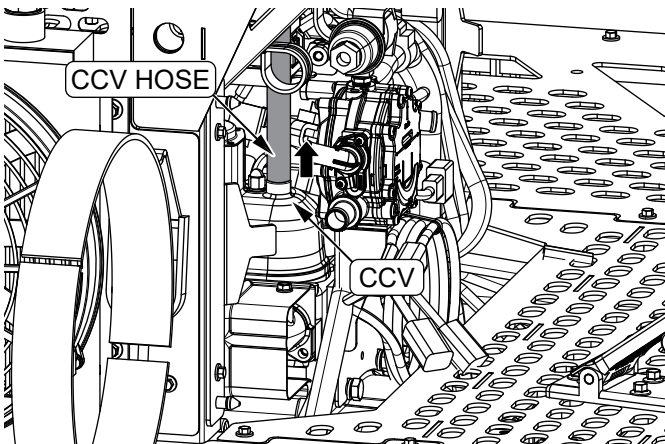

Figure 3. Disconnect CCV Hose
2. Disconnect the **CCV hose** (Figure 3) from the vent.